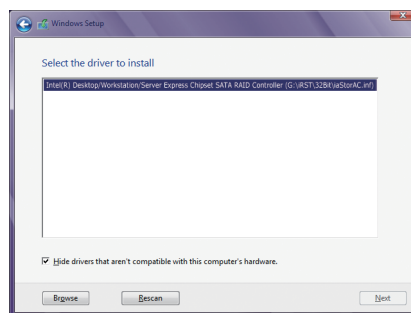

Figure 1
When a screen as shown in Figure 1 appears, select **Intel(R) Desktop/Workstation/Server Express Chipset SATA RAID Controller** and click **Next** to load the driver and continue the OS installation